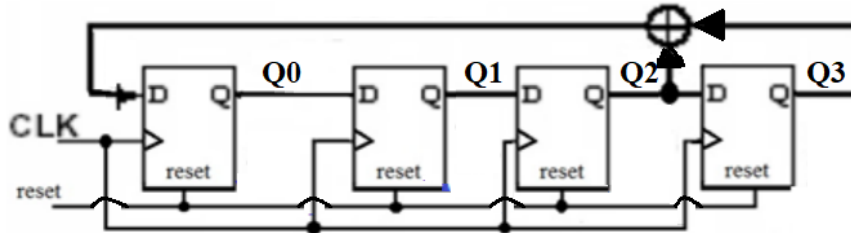

Figure 2. 4-stage LFSR diagram
Step 2. LFSR Testbench Design Review for Fig. 2 Circuit